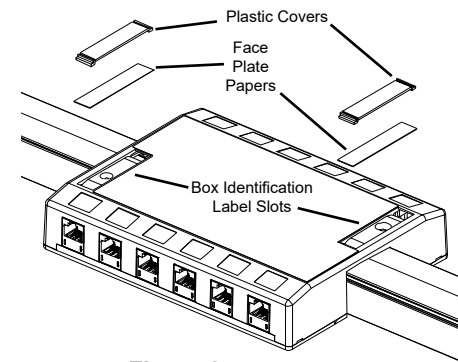

Figure 8
8. Insert face plate paper and clear plastic cover into box identification label slots. Optionally, laser printable adhesive port labels can be used to identify each port. See Figure 8.